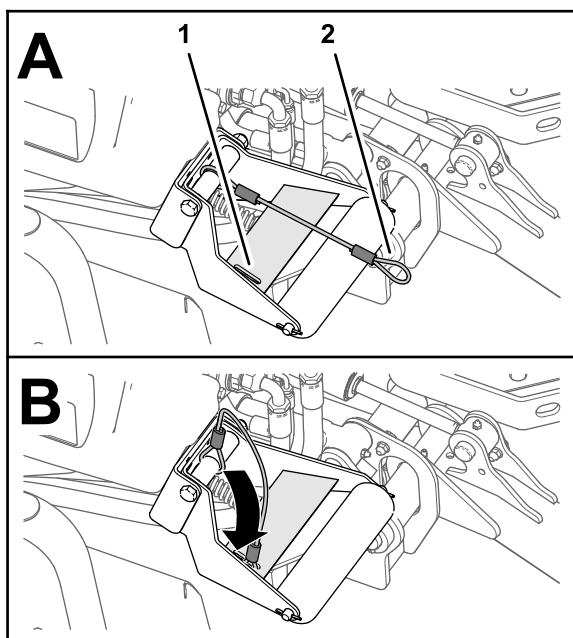

Figure 67
4. With the cutting units lowered, slip the loop of the lanyard into the slot in the reinforcement plate of the roller support (Figure 67).